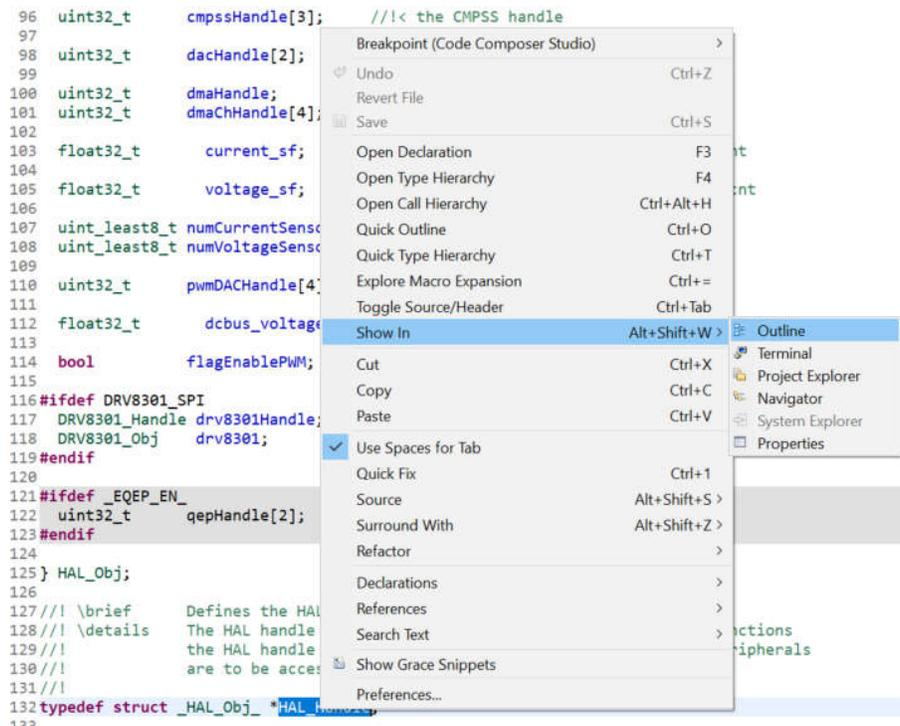

Figure 11: To show HAL_Handle and _HAL_Obj_ in Outline
2. With the file “hal_obj.h” now open, right-mouse click on HAL_Handle and select “Show In Outline” as shown in **Figure 11**.